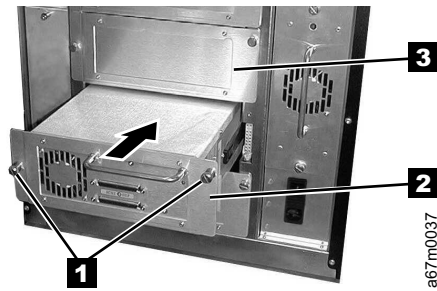

Figure 27. Installing a drive sled
3. From the rear of the library, locate the drive slot where you want to install the drive sled. Loosen the two captive thumbscrews on the filler plate (see **3** in Figure 27 on page 41) and remove the filler plate. Save the filler plate for future drive maintenance activity.